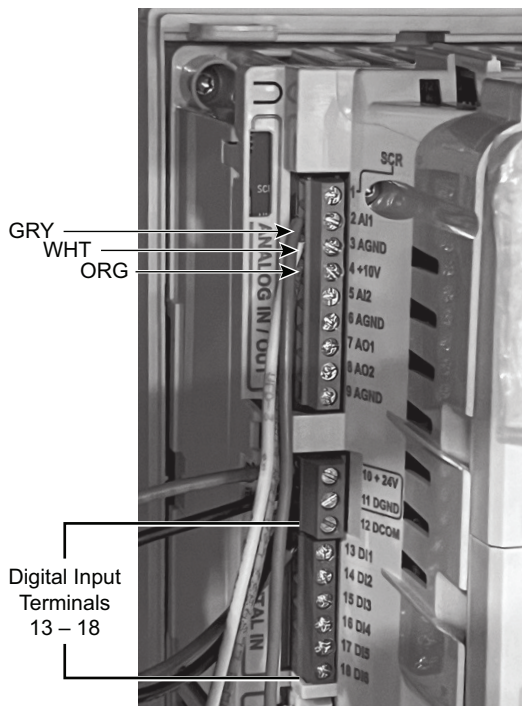

Fig. 47 — Digital Input Terminal Block Location on ACH580 VFD
3. Disconnect the DI1 input at Terminal 13 (see Fig. 47 for location of DI1).